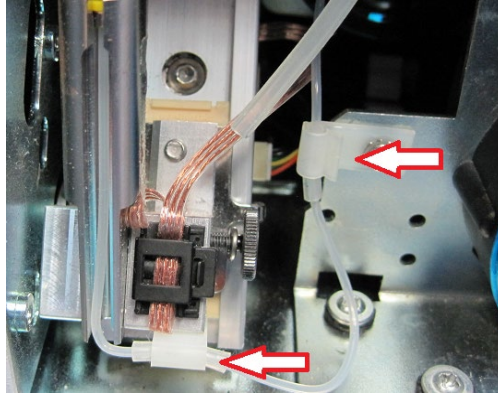

Figure 29
- 8.5. Re-Insert Needle-to-Reading Cell Tubing back into retention clips. Figure 29